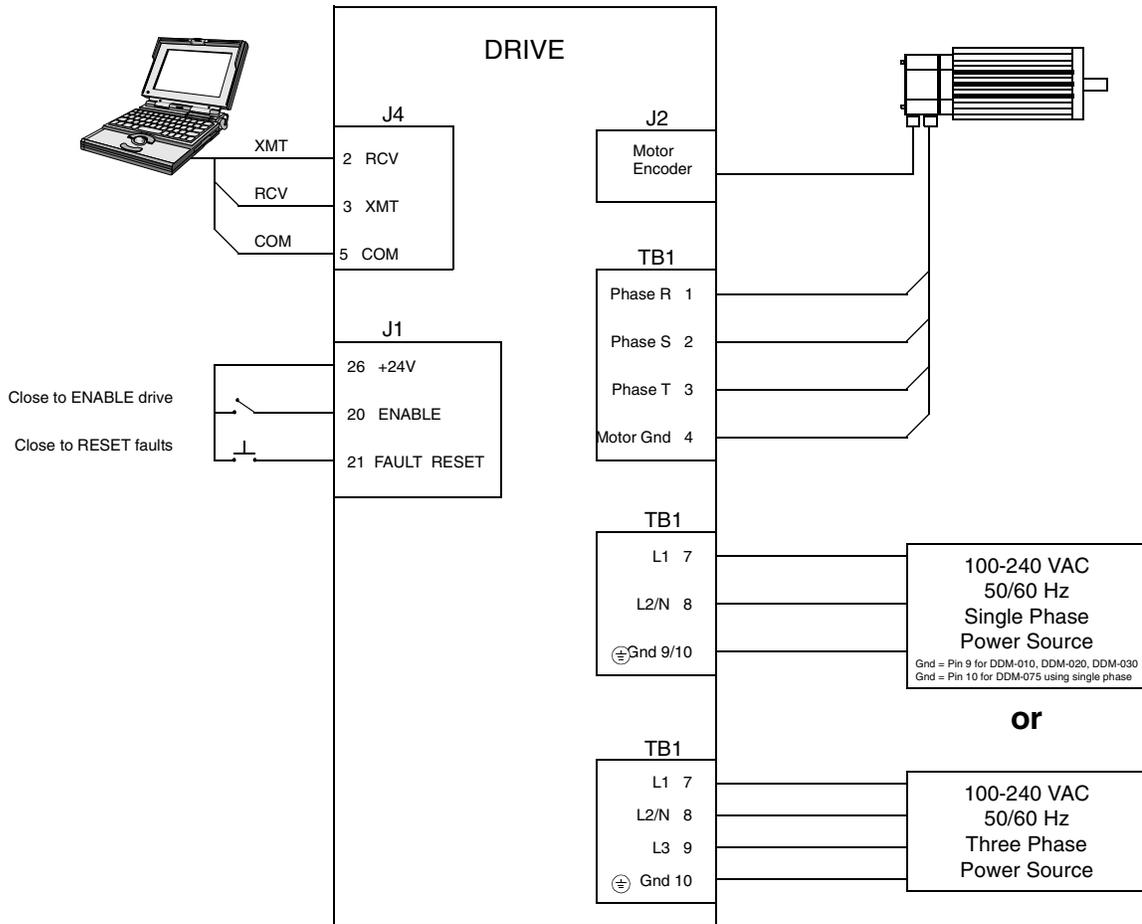

FIGURE 4.1
Make the connections described below and shown in Figure 4.1.
3. Connect a jumper wire with a toggle switch between J1-20 (ENABLE) and J1-26 (+24VDC). This provides manual control for enabling or disabling the drive. Figure 4.1 shows the jumper, including its normally open toggle switch.